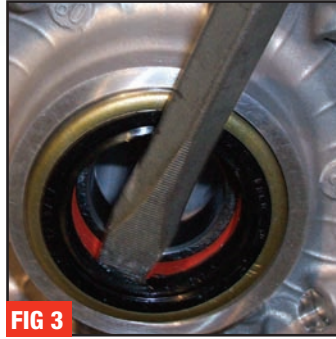

FIG 3
**3** Use a long screwdriver or narrow pry bar and pry the seals out of each side of the wheel (**Fig. 3**).